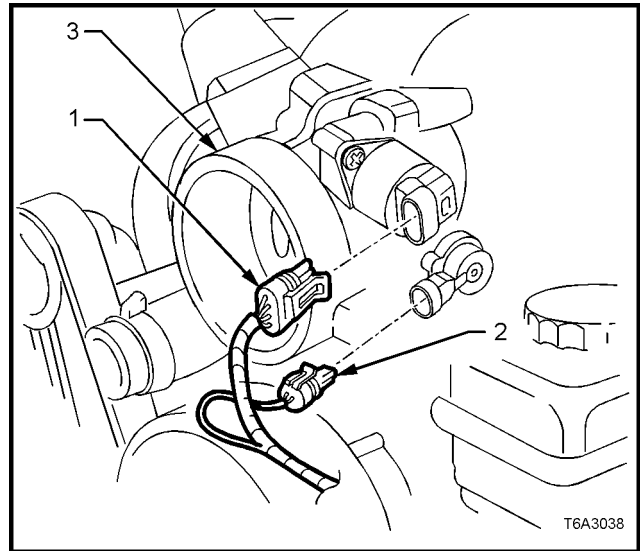

Figure 6A3-48
11. Disconnect the cruise control cable (1) (if fitted) from the stud (2) on the throttle body valve lever (3), then remove the outer cable (8) from the retainer bracket (4). Refer Figure 6A3-49.
12. Lift the throttle cable (5) from the clip at the fuel rail crossover pipe (6), then lift the cable (5) from the retainer bracket (4).
13. Remove the inner throttle cable (7) from the throttle body valve lever (3).